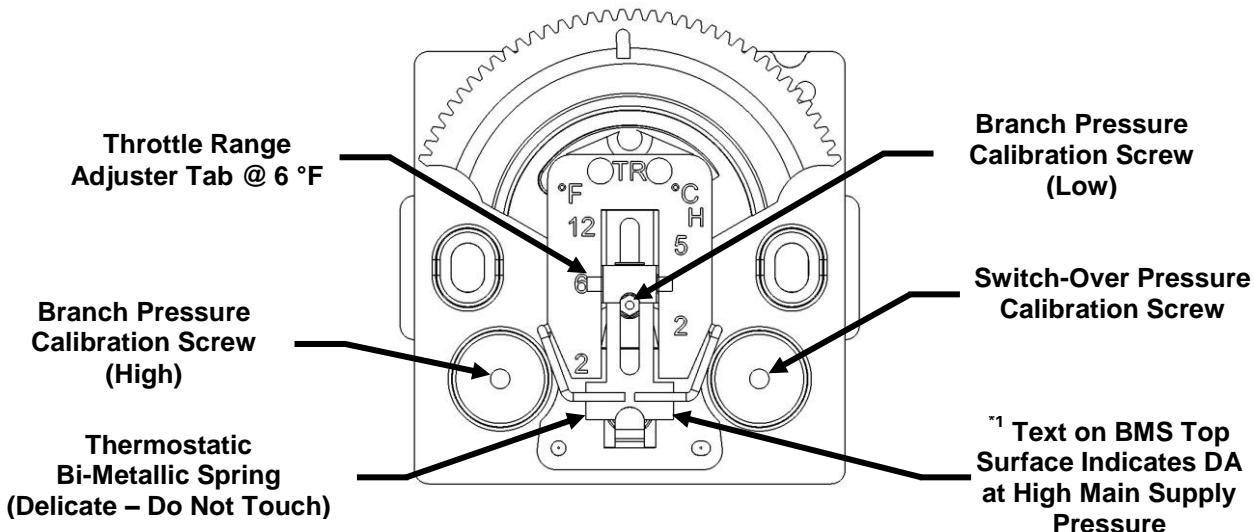

Figure 13. WPT Calibration Screw Locations
NOTE: The copper colored Throttling Range (TR) adjuster has been factory set at 6 °F as shown in Figure 13. The factory setting provides a Throttling Range (TR) of 2-1/2 psi/°F. The TR adjuster SHOULD NOT BE MOVED in order to ensure proper operation and accuracy of the WPT.
NOTE: Refer to Figure 13 for locations of the three Calibration Screws.